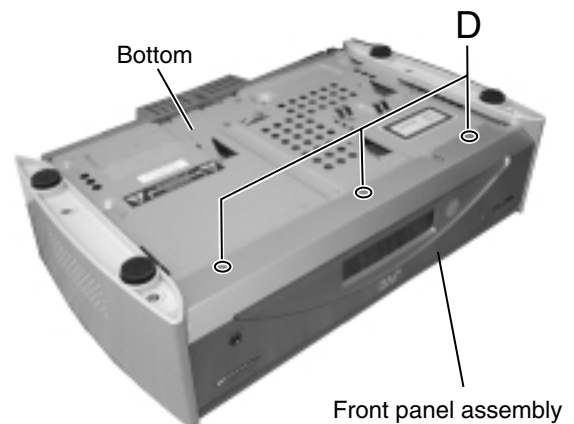

Fig.3
■ Removing the front panel assembly (See Fig.3 to 5)